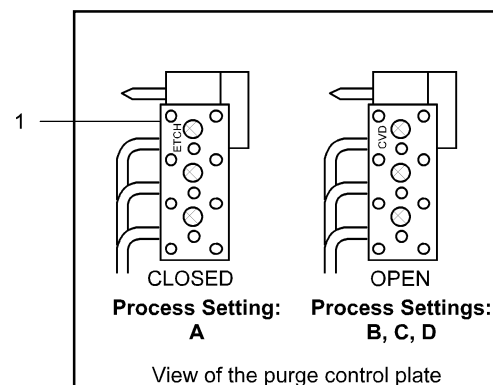

Figure 6 Connectors and operating controls at back
**Key to Figure 6**
If your process is in the “A” group in Table 2, seal off the supply of purge gas into the DRYVAC pump stages as follows (see Figure 6):